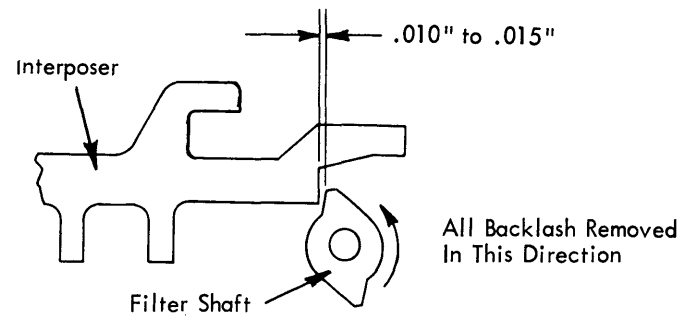

FIGURE 2. Filter Shaft Adjustment
1. Filter Shaft - With the cycle shaft in the rest position, the working surface of the filter shaft should clear a depressed interposer by $.005''$ to $.015''$ (Fig. 2).